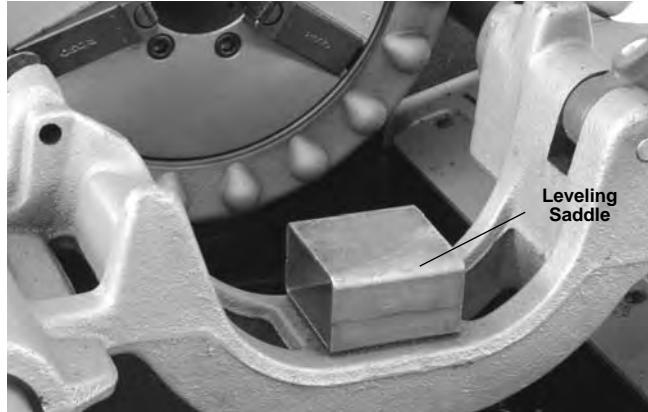

Figure 16 – Saddle on 535 Carriage
- If using a 535M with the high clearance carriage, place the leveling saddle on the carriage as shown in Figure 16.
1. Place the leveling saddle on the carriage as shown in Figure 16.